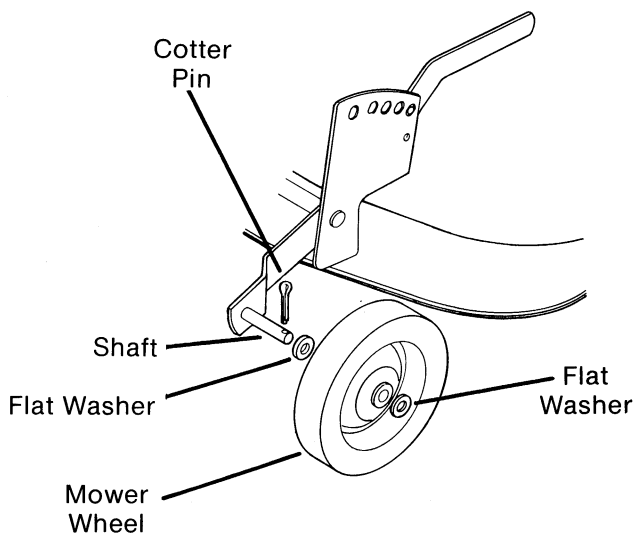

FIG. 2
- A. Lubricate mower wheel shafts with SAE #30 wt. oil. (Fig. 2)
- B. Slide one flat washer then mower wheel and another flat washer onto shaft on each end of wheel hanger. Secure each mower wheel in place on shaft with a cotter pin. (Fig. 2)